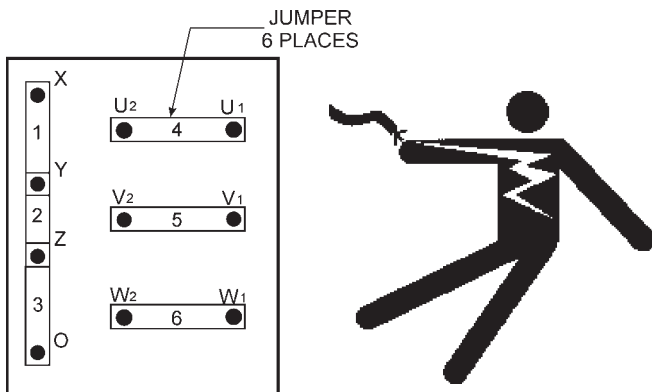

Figure 15. Voltage Change-Over Board
A wide range of voltages are available to supply voltage for many different applications. Voltages are selected by applying jumpers (6) to the **voltage change-over board** (Figure 15). To obtain some of the voltages as listed in Table 6 (see below) will require a fine adjustment using the **voltage regulator (VR) control knob** located on the control panel.
The **voltage change-over board** (Figure 15) is located on the control box, behind the generator control panel. This board has been provided for ease of voltage selection.